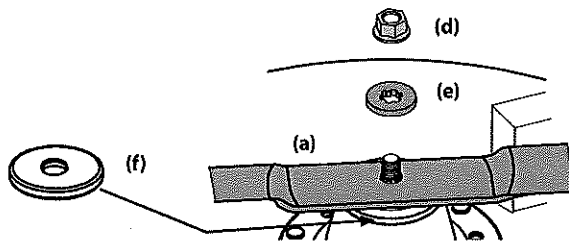

Figure 36
4. Remove the flange nut (d) and flat washer (e) securing the blade (a) to the mower (a) and remove the blade. See Figure 36.